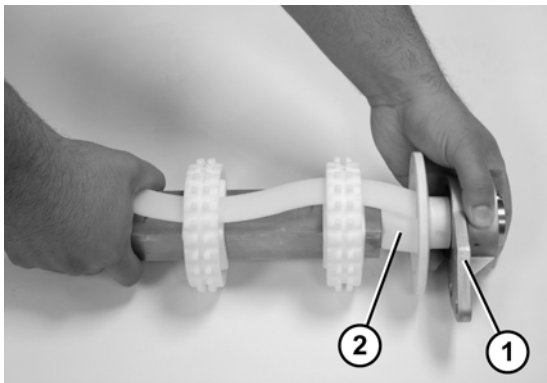

Figure 82
4. Attach the flanged pucks (**Figure 82, item 1**) and the 3 hole flange with bearing (**Figure 82, item 2**) to the drive spindle.